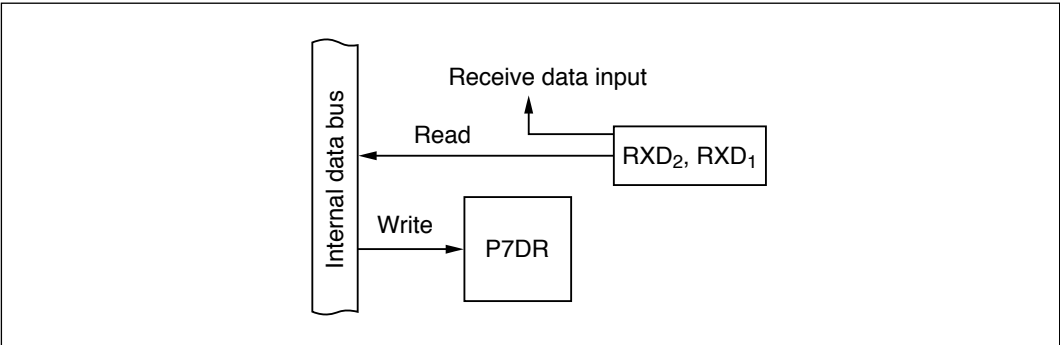

Figure 9-49 RXD₂ and RXD₁ Input (Modes 1 to 7)
(6) RXD₂ and RXD₁ Input (P7₅ and P7₃: Modes 1 to 7): Figure 9-49 shows a block diagram illustrating the RXD₂ and RXD₁ input function. Table 9-39 indicates register read/write data. When P7₅ and P7₃ are used for RXD₂ and RXD₁ input, the value written in P7DR is ignored, but P7DR can be read to monitor the levels at the RXD₂ and RXD₁ pins (to detect the line break state, for example).